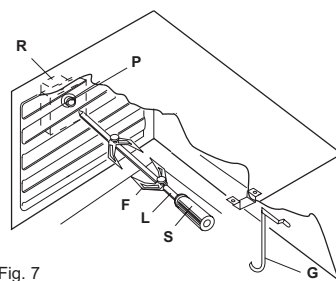

Fig. 7
- Put the food in spit **L** (see fig. 7), paying attention to block it within the two forks **F** and to balance it, in order to avoid any unnecessary effort in motor **R**.
- To remove the spit, operate in the opposite direction using knob **S** and protecting glove in isolating wool (fig.7).